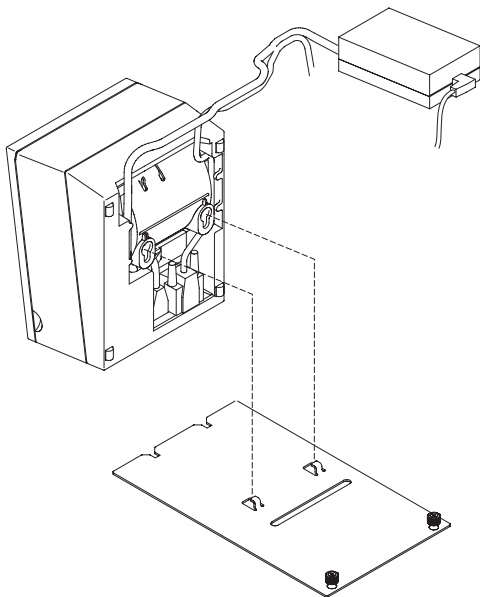

Figure 100. Attaching the 4610 SureMark printer mounting plate for a non-keyboard integration tray
2. Attach the printer mounting plate to the bottom of the printer. The mounting plate slides into the two bottom slots of the printer, as shown in Figure 100.